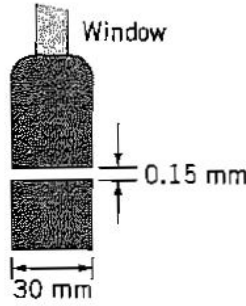

Figure P8.21:
8.21 A small gap is left between a window and the windowsill, as shown in Figure P8.21. The gap is 0.15 mm by 30 mm , and the width of the window is 1 m . The pressure difference across the window is 60 Pa . Estimate the average velocity and the volume flow rate through the gap. The air temperature is 0°C . Ignore minor losses.